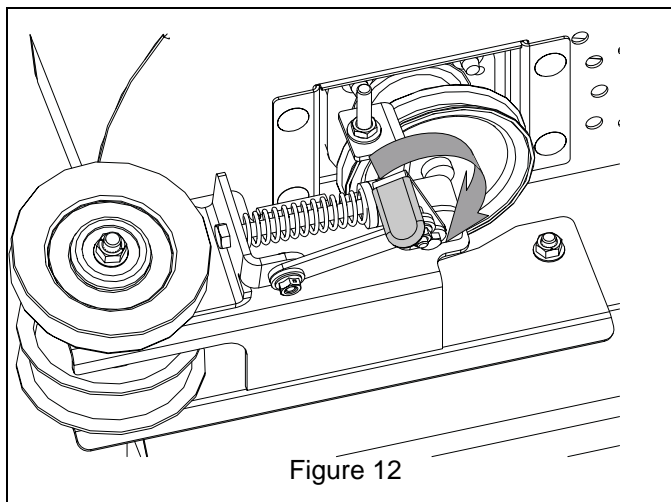

Figure 12
1. Rotate the idler assembly lever to the rear and down until it locks in the down position and fully retracts the idler pulley. See Figure 12.
6. Release tension from V-belt and remove V-belt from blower and deck spindle. See Figure 12.